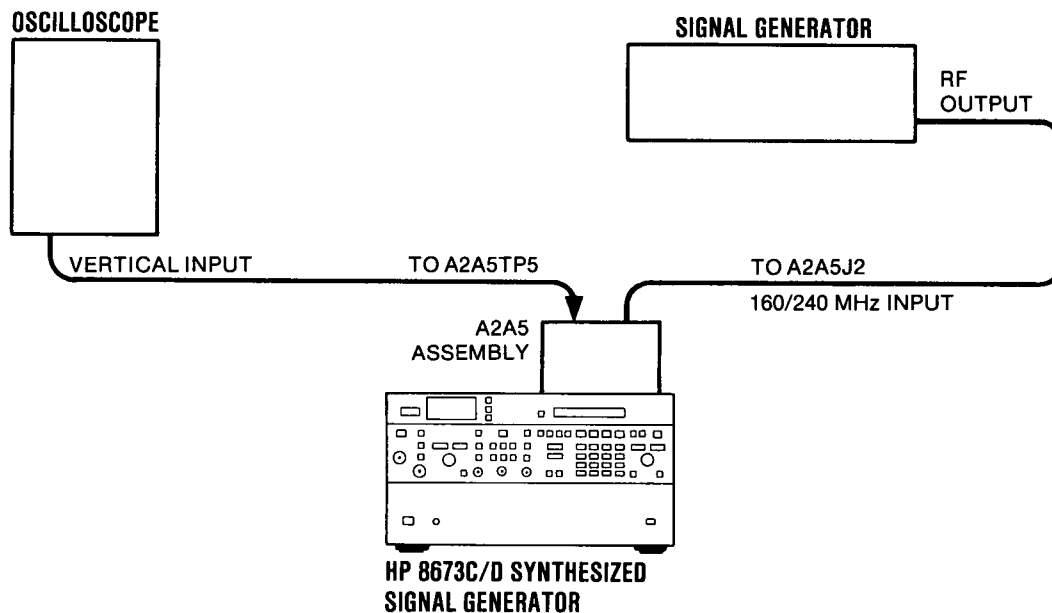

Figure 5-8. 20/30 MHz (LFS) Loop Divider Bias Adjustment Test Setup
7. Connect the equipment as shown in Figure 5-8.